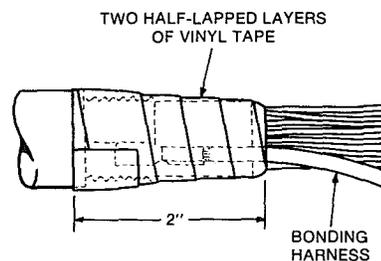

Figure 11. Butt of Cable Wrapped with Vinyl Tape
4.17 Wrap the butt of the main cable with two layers of vinyl tape to reinforce the bond clip connection as shown in Figure 11.